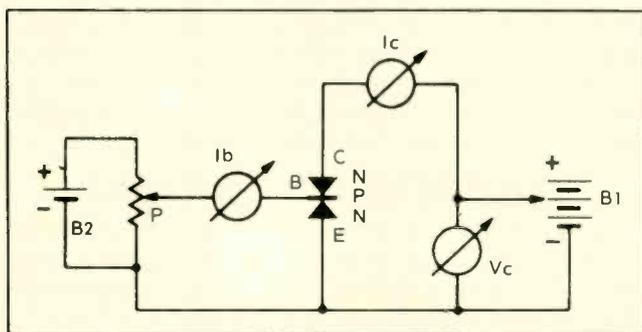

Fig. 2—A transistor behaves like two opposing diodes.
Because of its two junctions NP and PN, this transistor behaves just like two opposing diodes with a common cathode, B (Fig. 2). With E grounded, let us apply positive potentials to B and C and look at the meter scales to see what happens. If B were unconnected, collector current  $I_c$  would be zero whatever the polarity of collector battery B1, for if one of the diodes were conducting, the other would be reverse biased and block any current. For the polarity shown, the upper diode (BC) is cutoff. If now we made B positive regarding E by means of potentiometer P, shunting battery B2, the lower diode (EB) is thereby biased to conduct and will pass the electrons provided by emitter E (hence, its name), and since the base region is made extremely thin, by design, the electrons attracted by the positive collector potential will easily traverse the base to penetrate the collector region. The collector thus absorbs practically from 95 to 99 percent of the emitter current, with only 1 to 5 percent of it taken by the base.